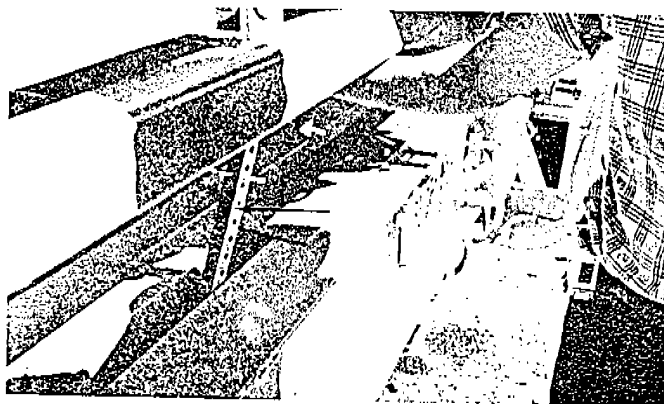

Fig. 81
- Remove the gooseneck legs. Store the legs by slipping them down in the narrow space along the length of the trailer frame. (Fig. 81)
Slip the legs of the jack stands down in the narrow space along the length of the trailer frame. (Refer to Fig. 81)